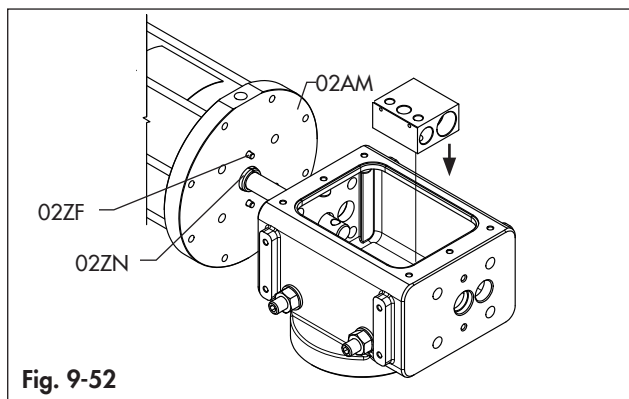

Fig. 9-52
- Make sure the components (02ZN), if any, and the pins (02ZF) are in the correct position, as per Fig. 9-52.